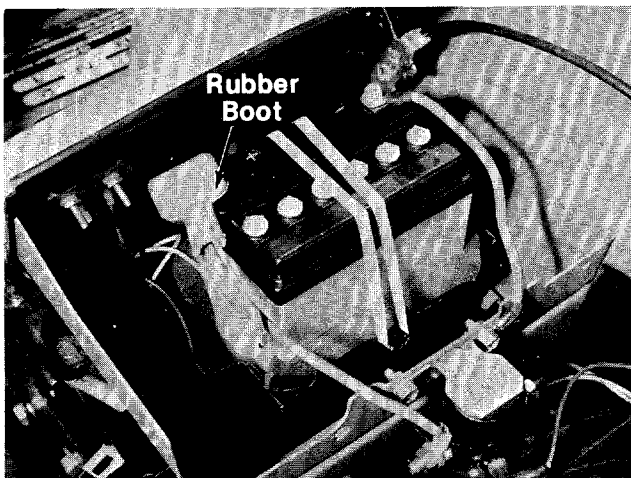

FIGURE 12.
16. Slide the rubber boot over the positive terminal. See figure 12.